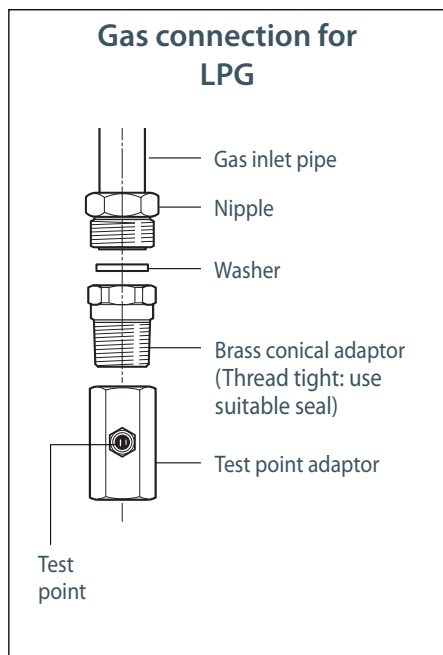

Fig. 11 LPG connection
- For LPG, connect the gas supply to the test point adaptor which is supplied with the appliance (Fig.11). Ensure that the supply pressure is regulated to 2.75 kPa.